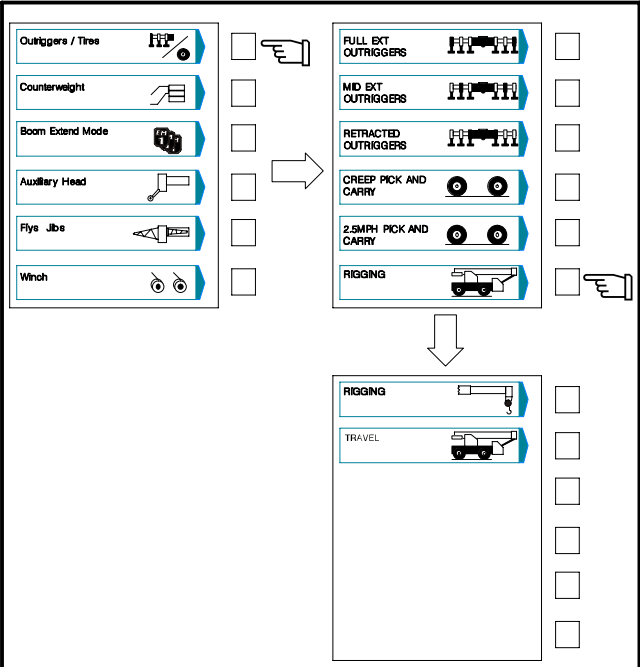

Figure 1-87
2. Press the corresponding configuration selection button to select RIGGING mode. Refer to Figure 1-87.